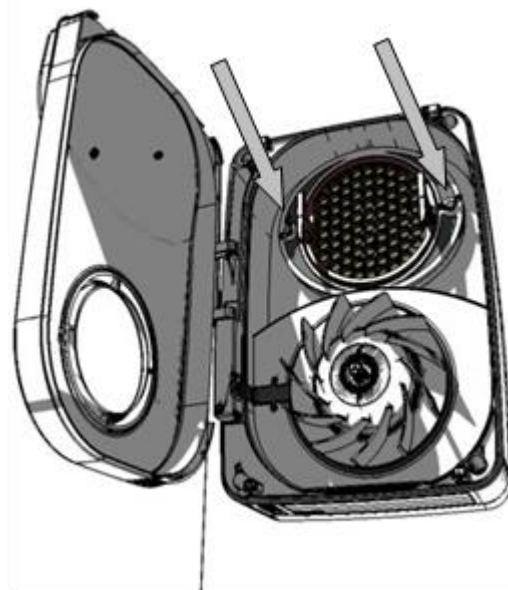

Figure 15
- 10.** Secure the heat exchanger in place with the retaining clamp, fixing it with the two screws (Figure 15).